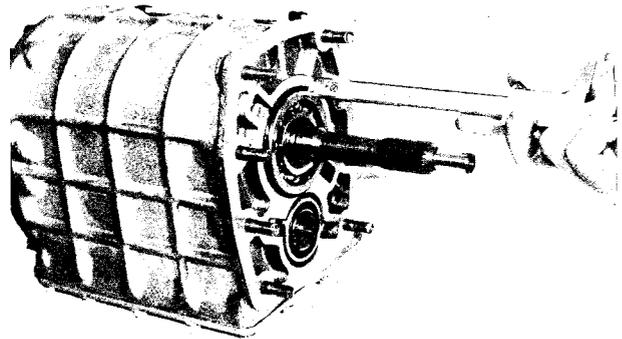

Fig. 7-31 Measuring bearing height
45. Check the bearing end play. Measure the depth of the bearing bore in the clutch housing using a depth gauge. Then, measure the bearing protrusion, as shown in Fig. 7-31. The difference between two measurements indicates the required thickness of the adjusting shim. The end play should be **less than 0.1 mm (0.0039 in)**. The shims are available in the following thickness: